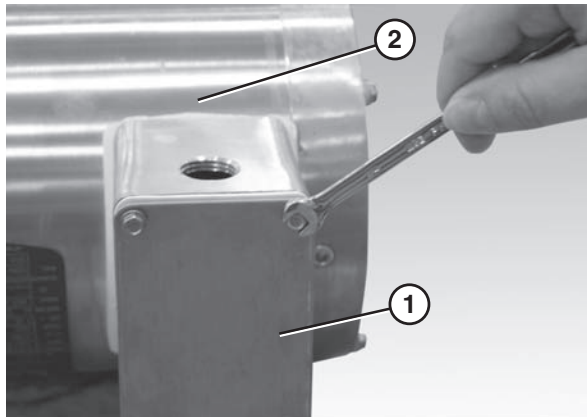

Figure 35
1. Loosen the screws and remove the cover (Figure 35, item 1) from the junction box located on the side of the motor (Figure 35, item 2).